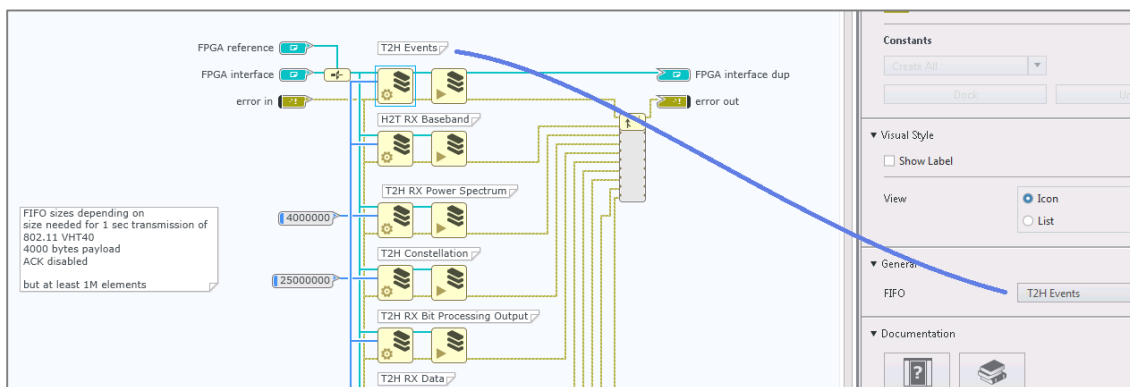

Figure 19 - "802.11 Setup DMA FIFOs.gvi" (after adding FIFO name comments)
2. **(Recommended)** Add comments above the affected nodes which note the currently configured resource name as shown in Figure 19.